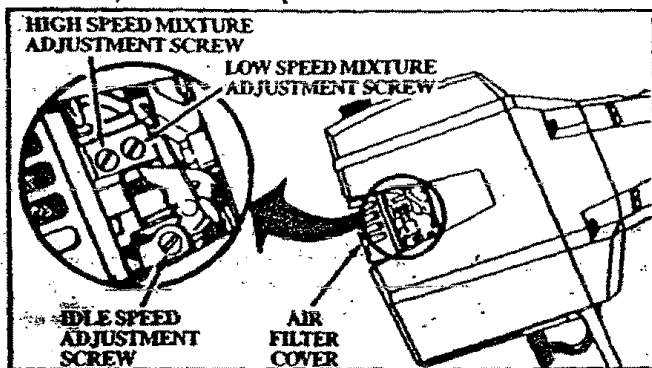

Figure 33
- a. Turn the Low Speed Mixture Screw and the High Speed Mixture Screw (Figure 33) clockwise until they stop. *Do not turn the screws until they are tight as damage to the needle seats can occur.*
- 2.) Adjust Idle Speed Screw (Figure 33) until the engine continues to run without stalling and without the trimmer head moving.
- b. If the engine does not accelerate smoothly, turn the Low Speed Mixture Screw (Figure 33) counterclockwise a small amount (no more than the width of the slot in the adjusting screw).
- 2.) Turn the Low Speed Mixture Screw (Figure 33) slowly clockwise until the speed starts to drop. Note this position.
- 3.) Turn High Speed Mixture Screw (Figure 33) very slowly clockwise until engine speed is reduced.